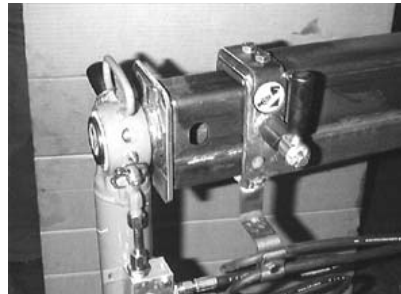

fig. 10c
- Position the lever **B**, placed on the first support, (fig.10c) upwards; the spring loaded security device will be released from its seat.